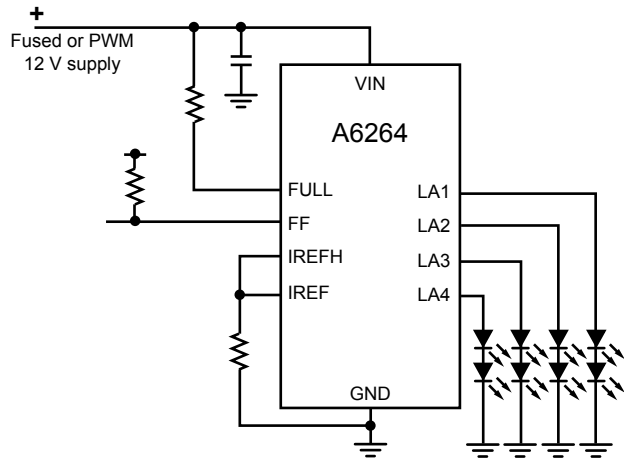

Figure 9. Incandescent lamp replacement.
- Figure 9 shows the A6264 driving LEDs in a low voltage incandescent lamp replacement. In such replacement applications the supply may be provided by a PWM-driven, high-side switch. The A6264 can be used in this application by applying the PWM supply directly to  $V_{IN}$ . When power is applied there will be a short startup delay,  $t_{ON}$ , before the current starts to rise. The current rise time will be limited by the internal current slew rate control. In this example the A6264 is operating with FULL high and with a fault output.